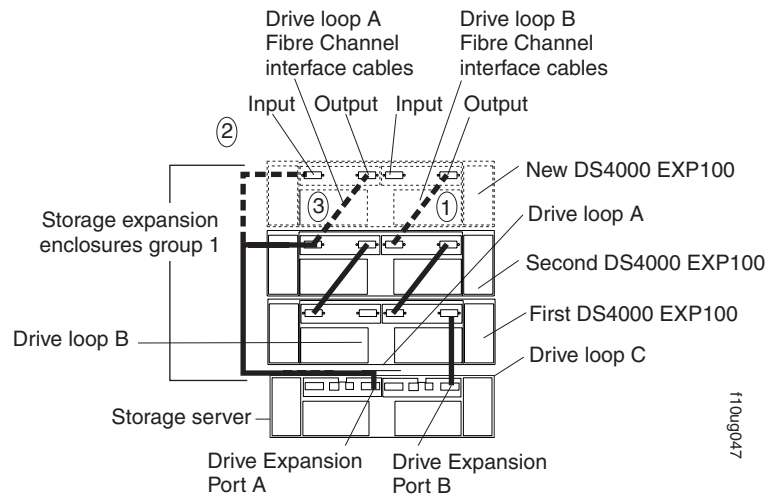

Figure 77. Add a new storage expansion enclosure to a redundant loop
Figure 77 on page 117 shows the process of adding an additional storage expansion enclosure (in this case, a DS4000 EXP100) to an existing DS4100 storage subsystem configuration. Drive loops A and B form one redundant fibre-channel loop.
In Figure 77, the existing DS4100 configuration already includes two DS4000 storage expansion enclosures. The dashed lines show you how to add a third DS4000 storage expansion enclosure to the configuration. To add the new DS4000 storage expansion enclosure shown in Figure 77, you would perform the following steps:
3. Make the fibre-channel connection marked 1 in Figure 77 (drive loop B). Then power on the new DS4000 storage expansion enclosure and verify that it is recognized in the DS4000 Storage Manager Subsystem Management window.
4. Make the fibre-channel connection marked 2 in Figure 77.
5. Make the fibre-channel connection marked 3 in Figure 77 (drive loop A).